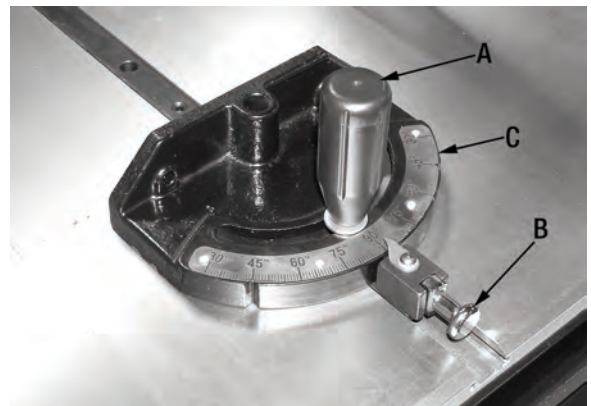

FIGURE 15
The miter gauge shown in Fig.15 normally gets positioned on the left side of the blade by sliding the miter gauge bar into the table T-slot. To operate the miter gauge, loosen lock knob (A) Fig.15, pull and hold the positive stop pin (B) and pivot the miter gauge body (C) to the desired angle, release the positive stop pin (B) and retighten lock knob (A).
If you desire a preset positive stop such as 0° or 45° setting, loosen lock knob (A) Fig.15, pull and hold the positive stop pin (B) and slightly pivot the miter gauge body (C). Once you get close to the desired angle, release the positive stop pin, continue to rotate the miter gauge body to the desired angle, the positive stop pin will engage that positive stop position, once the preset angle is set, then retighten lock knob (A).